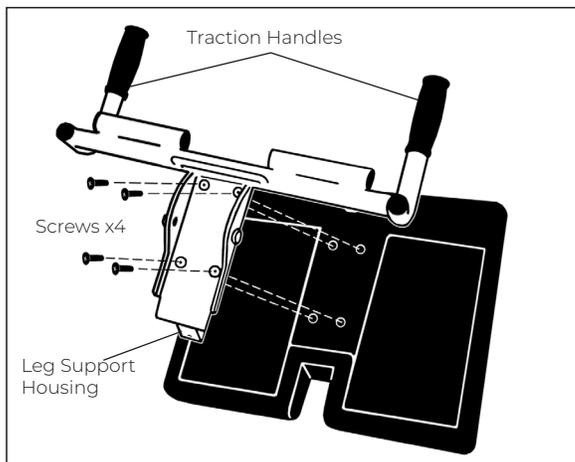

Figure 3
Figure 3: In this step, use only the four (4) small screws. Position the Lap Pad Frame on top of the Lap Pad face-down with the Leg Support Shaft Housing resting inside the indented area of the Lap Pad. Align the screw holes. Insert the screws through the holes and tighten with the Screwdriver.